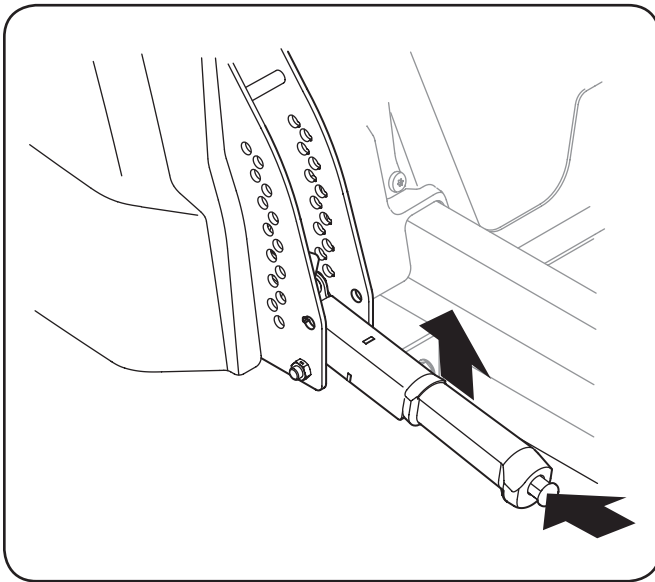

Figure 5-11
3. Use the deck lift handle to raise the deck to its highest position by depressing the button at the end of the handle and pulling upwards. Make sure the latch engages on the pin. See Figure 5-11.